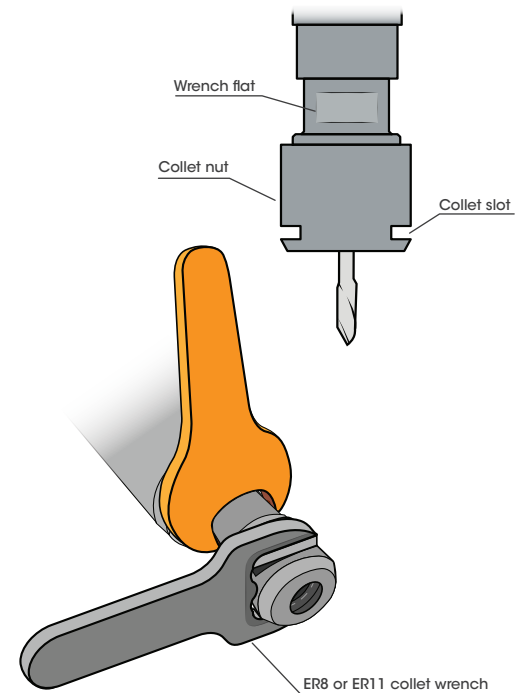

Figure 7: Correct insertion of both the wrench and the ER8 or ER11 collet wrench to remove or secure the collet nut.
2. Take the ER8 or ER11 collet wrench included with your Air Turbine Motor® and apply it on the collet slot as shown in **figure 7**. Turn the wrench counterclockwise to release the current cutting tool.
7. Insert the collet wrench into the collet nut and turn it clockwise as shown in **figure 7** to ensure the new collet and cutting tool is firmly held.